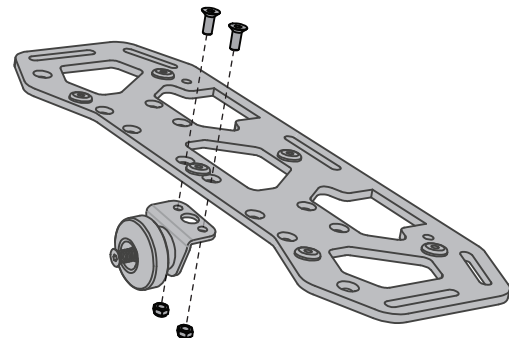

Figure 6. Install Quick Release Knob
3. Install one Quick Release Knob to each Cargo Rack using two 16 mm fasteners and two Nyloc nuts, as shown in **Figure 6**. Torque the fasteners to **6.0 N-m (4.4 ft-lbf)**.